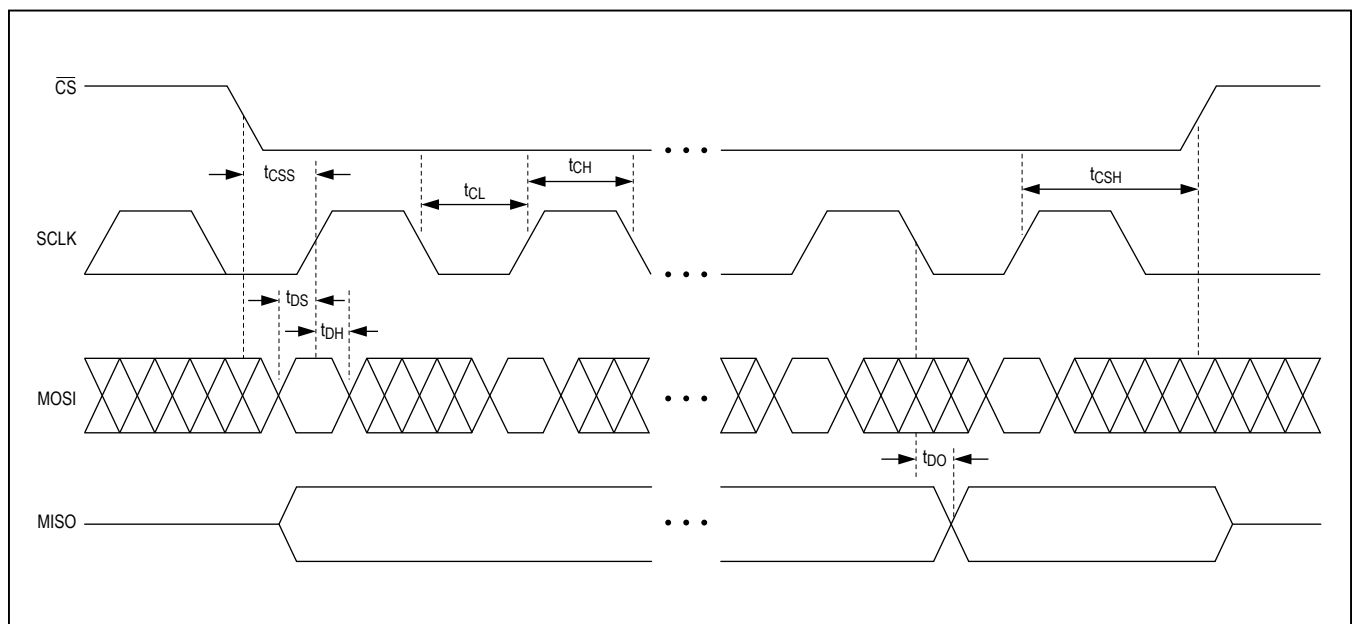

Figure 12. SPI Timing Details
In SPI mode, the device operates a shift register designed to work with common serial interfaces. The bits are shifted through so that a large serial chain can be made to minimize pins needed for a system with multiple devices. (See Figure 12.) This shift register is also designed to be compatible with common microcontroller SPI-type interfaces. The switches in the MAX14661 are all transitioned simultaneously. To update the switches in SPI mode, the user must shift in a bit with the desired state of each switch according to the data format listed in Table 4. The switches are updated at the rising edge of  $\overline{CS}$  with the last 32 bits of data shifted in **only if the number of bits clocked in is greater than or equal to the number of switches (32)**. The DOUT pin is the serial output of the shift register. This outputs the data loaded into DIN, delayed by 32 clocks, and is intended for creating a serial daisy chain to minimize the number select lines required
Note that the data in the shift register may not be the same as the state of the switches. The DOUT pin is intended for daisy chain applications and not for switch readback. Note for  $V_{CC}$  less than 2.7V, the DOUT propagation delay can limit the maximum SPI operating frequency. See Figures 12 and 13 for the SPI timing diagrams. The voltage level driven out by the DOUT buffer is set by the voltage applied to  $SPI/\overline{I}^2\overline{C}$ . This allows the voltage to be independent from the supply voltage. While we expect the voltage at  $SPI/\overline{I}^2\overline{C}$  to be less than or equal to  $V_{CC}$  in most applications, it can be higher than  $V_{CC}$  as long as it does not exceed  $V_{CC}$  before  $V_{CC}$  has reached at least 1.8V.